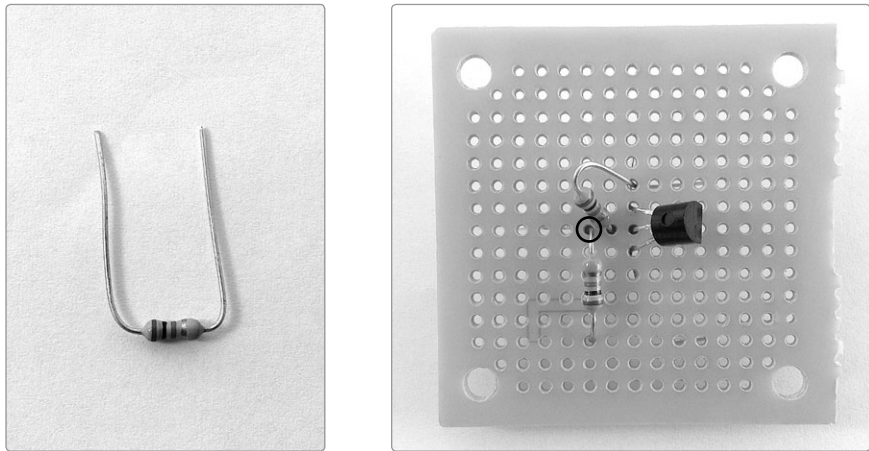

FIGURE 12-9: *The resistors are installed, and the solder point is highlighted.*
Step 12 Bend your other 1M ohm resistor into a *U* shape, as shown in Figure 12-9 (left). Mount it on the PCB vertically so that one lead is in the first open hole to the left of the transistor's middle leg and the other lead is five rows down. When your resistor is in place, solder the top leg to its pad, as indicated in Figure 12-9 (right), but don't solder the bottom leg for now.